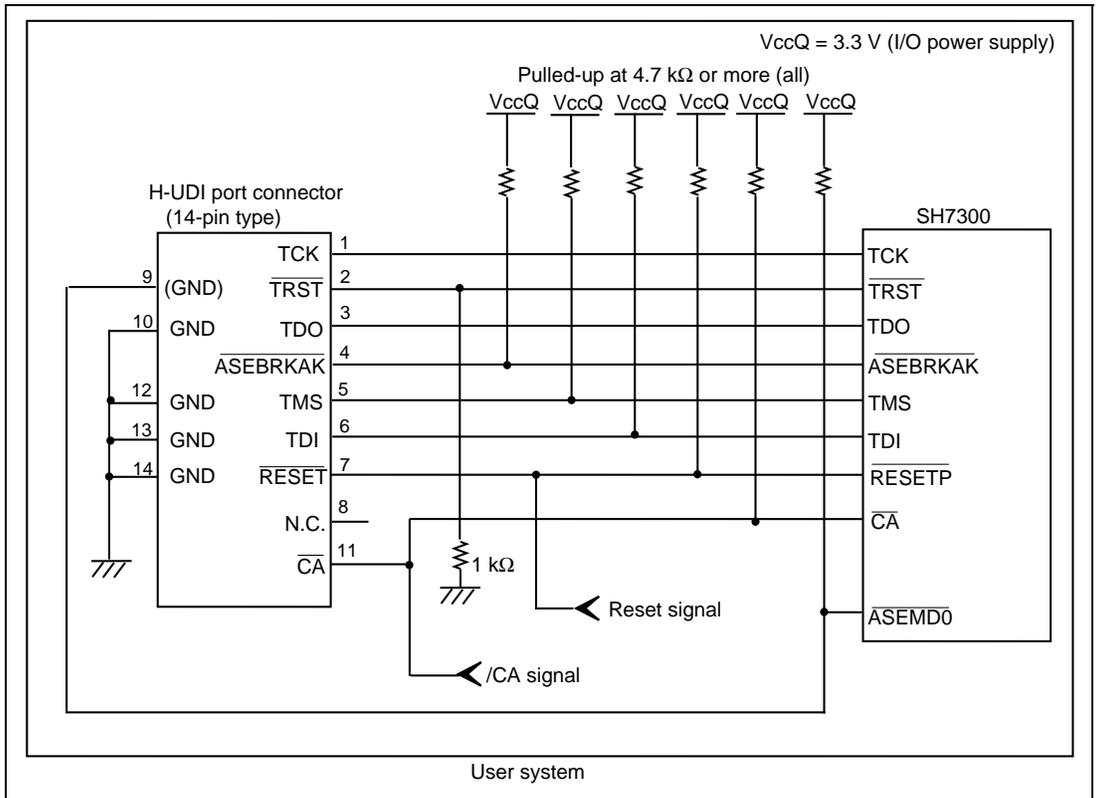

Figure 1.6 Recommended Circuit for Connection between the H-UDI Port Connector and MPU when the Emulator is in Use (14-Pin Type UVCC Not Connected)
- (1) When the emulator is used: /ASEMD0 = 0 (ASE mode)
- (2) When the emulator is not used: /ASEMD0 = 1 (normal mode)Figures 1.6 and 1.7 show examples of circuits that allow the /ASEMD0 pin to be GND (0) whenever the emulator is connected by using the user system interface cable.
9. Changing the emulator switches (SW2 = 0 and SW3 = 0) allows pin 11 to be used as the /CA pin. With this setting, supplying the VccQ to the UVCC pin is not available. Thus the I/O voltage level of the user system interface will be fixed to 3.3 V. Pin 8 must be N.C (open), as shown in figure 1.6.
When the circuit is connected as shown in figure 1.6, the switches of the emulator are set as SW2 = 0 and SW3 = 0. For details, refer to section 3.8, Setting the DIP Switches, in the Debugger Part of the SuperH™ Family E10A-USB Emulator User's Manual.